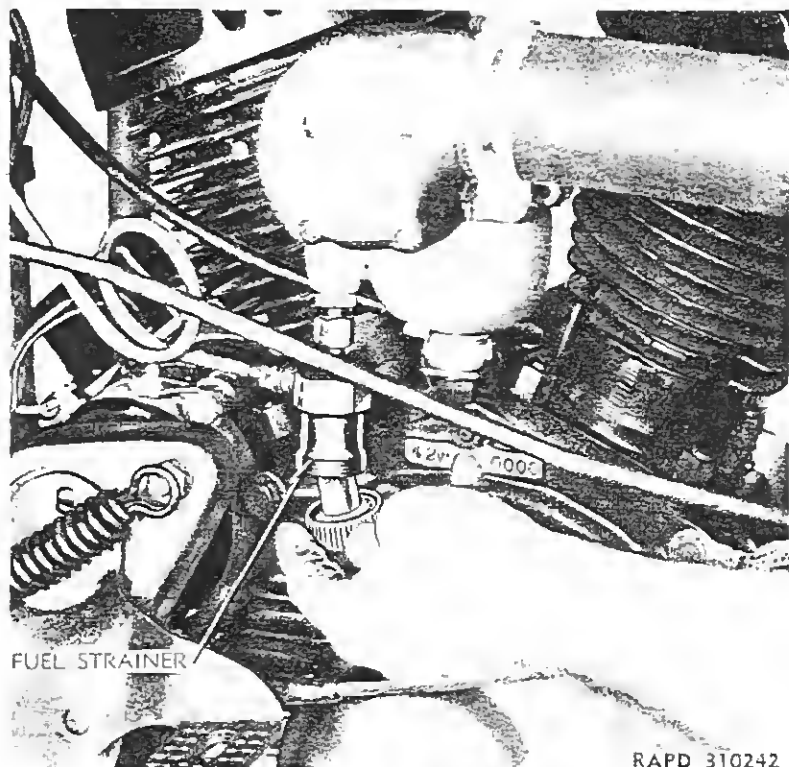

Figure 45—Removing Fuel Strainer
(3) Insert carburetor air intake fitting into end of air hose and mount fitting on carburetor with the four screws. Tighten air hose clamp.
(4) Connect fuel pipe to fuel strainer nipple by tightening the union nut and also the strainer union nut on bowl nipple.
(5) Attach throttle control wire to throttle lever connector block and adjust (par. 69).
(6) Open fuel supply valve and observe for leaks.
(7) Adjust carburetor (par. 68).
72. FUEL STRAINER (fig. 45).**a. Cleaning.**